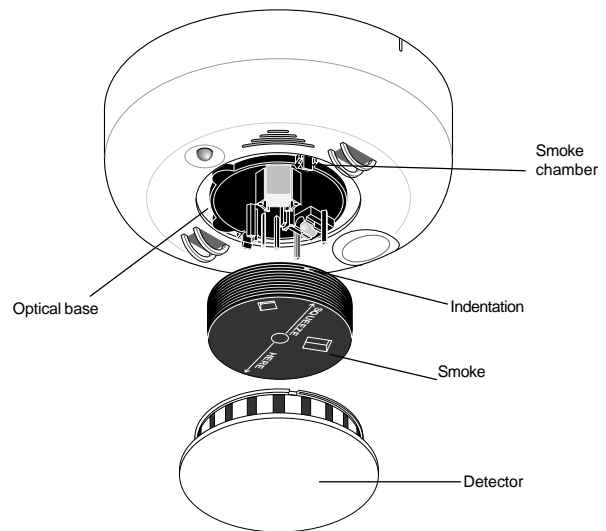

Figure 7 - Detector Parts
5. Press in on the sides of the smoke chamber and pull it up and away from the detector and discard. See Figure 7.